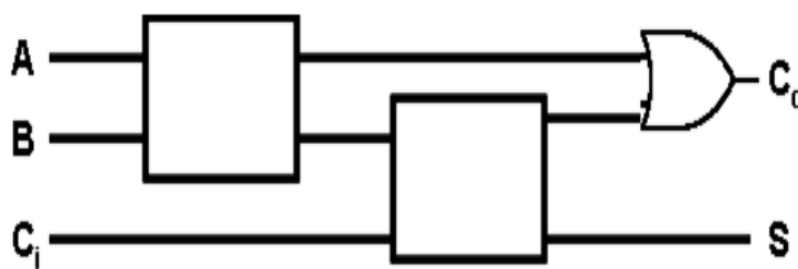

Figure 3.6 - Three input and two output Logic circuit.
- a. Complete the circuit shown in Figure 3.6. (Hint: Use Boolean Expressions)
b. Complete the Data of Table 3.7 for Figure 3.6.
Table 3.7 - Data Table for circuit shown in Figure 3.6